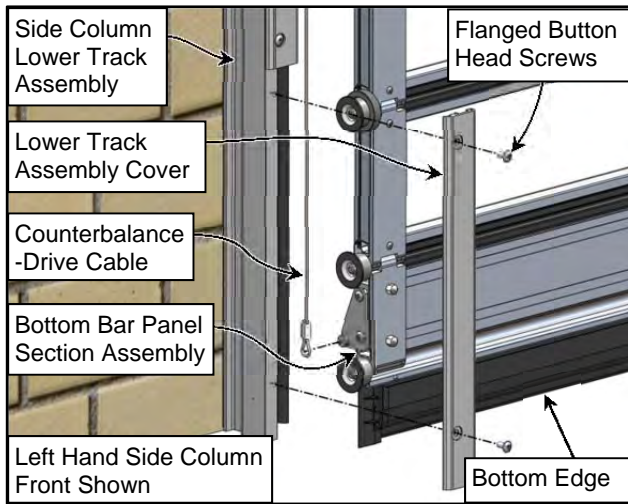

Figure 49
8. Remove the bottom Lower Track Assembly track cover on the side of the drive cable to be replaced. The cover is held in place with TORX® button head screws. (See Figure 49)
- Remove the cable from the door panel bottom bar as shown. (See Figure 49)